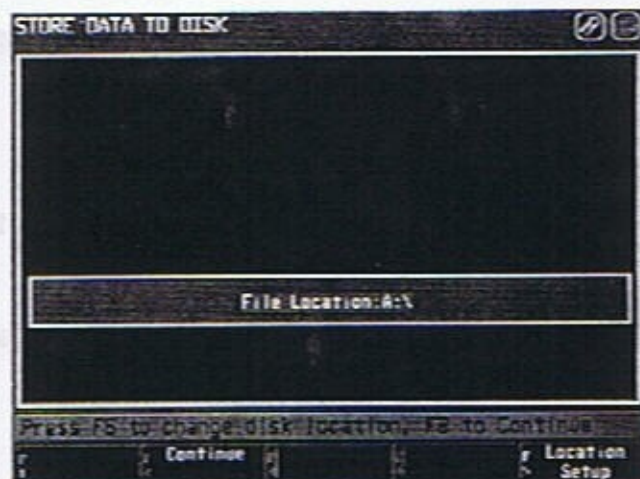

Figure 5-27
2. Press [F5] to change disk location if necessary, (see Figure 5-27).